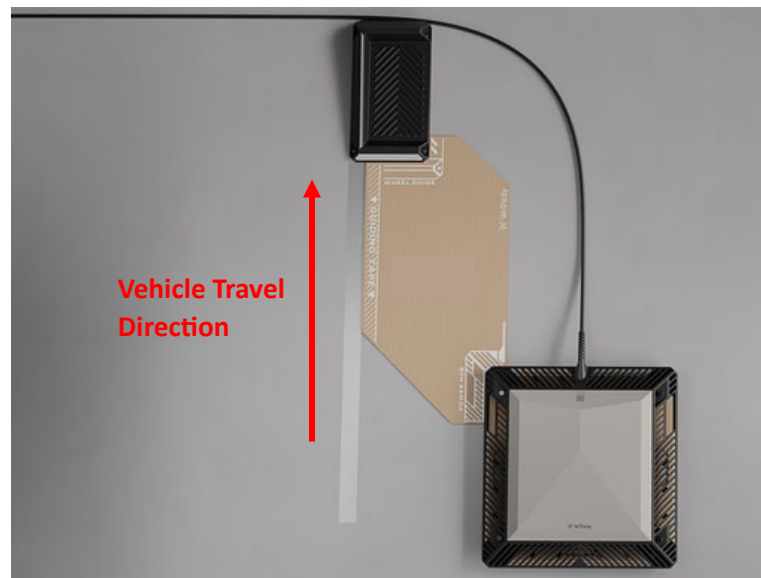

Figure 6
1. Place the Installation Template down aligning the cut out in the template with the Wheel Guide as shown below in Figure 6.
2. The alignment strip will be placed along the edge of the template marked "Guiding Tape." Using the same technique as for the Wheel Guide, clean the surface where the Guiding Tape will go, then peel off the backing and place the alignment strip on the ground as shown in Figure 6 below. Pull the alignment strip taut to allow the strip more easily to be placed in a straight line. Press down on the alignment strip to ensure there is good contact to the mounting surface.
To secure the Power Hub to the risers, place the Power Hub on top of the four risers, making sure they snap into the two locators on each riser. The Power Hub should be oriented so that the cable will exit the top of the Power Hub, with the WiTricity logo as the bottom side, as seen in Figure 6 above. Install one bolt in each riser using a 5/16" Allen key to secure the Power Hub to the risers.
The Power Hub should be oriented so that the cable will exit the top of the Power Hub, with the WiTricity logo as the bottom side, as seen in Figure 6 above. Be sure to not leave any gaps when fitting the Power Hub into the indented corner of the Wheel Guide Installation template.